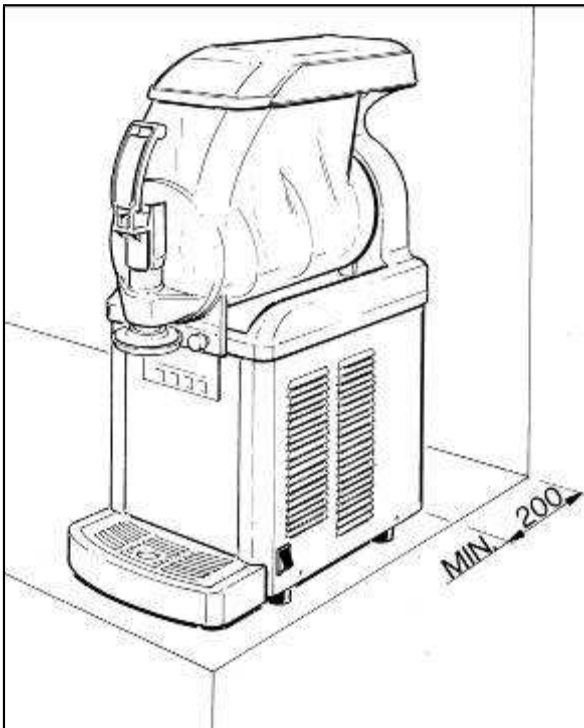

Рис. 2
b) Rest the machine on a sturdy, flat surface making sure it is well ventilated by leaving a gap of 20 cm around it and do not install it near heat sources (Рис.2); we recommend you to maintain a room temperature between 24 and 32°C.